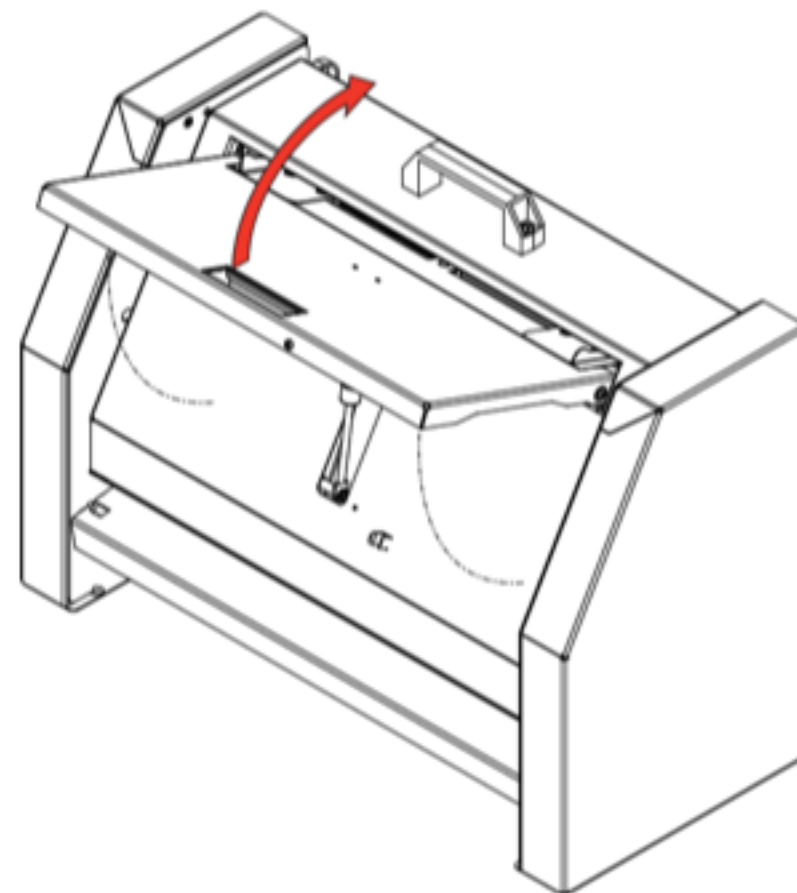

Fig.1
- Press (1) to have access to the numerical keypad.
- Validate the function by pressing button (2). The manual feeding button becomes orange.
- Lift the BMe entry tray (fig 1).